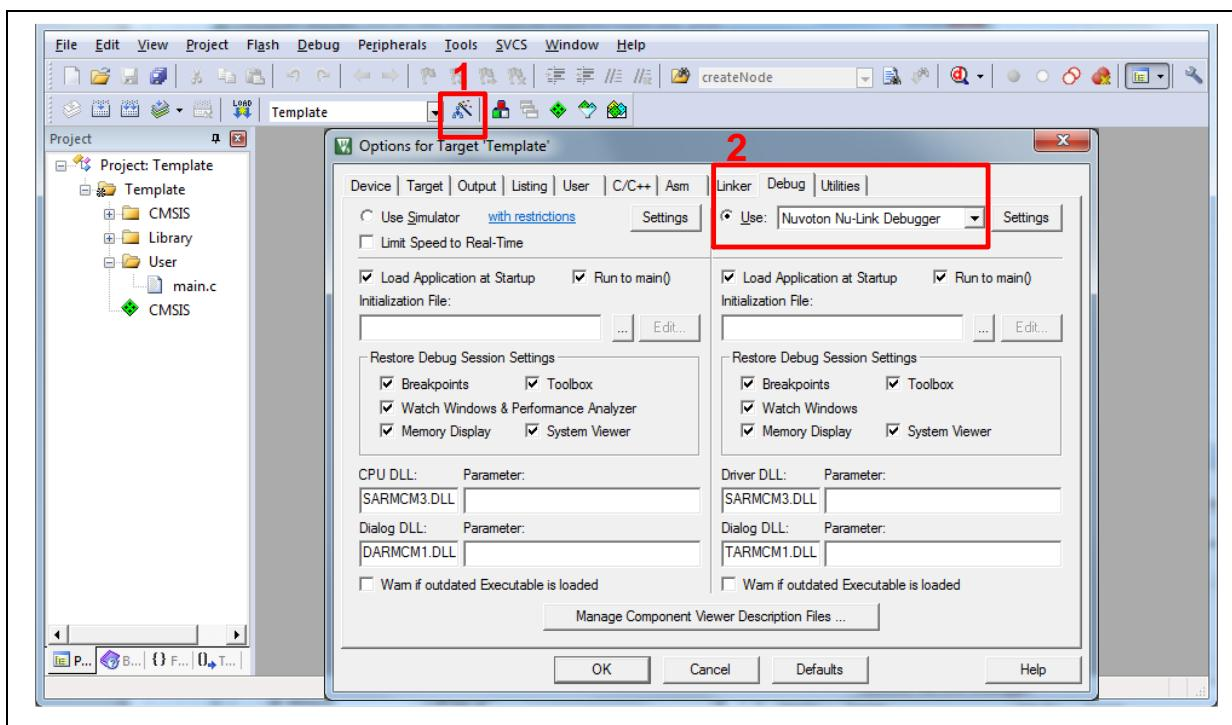
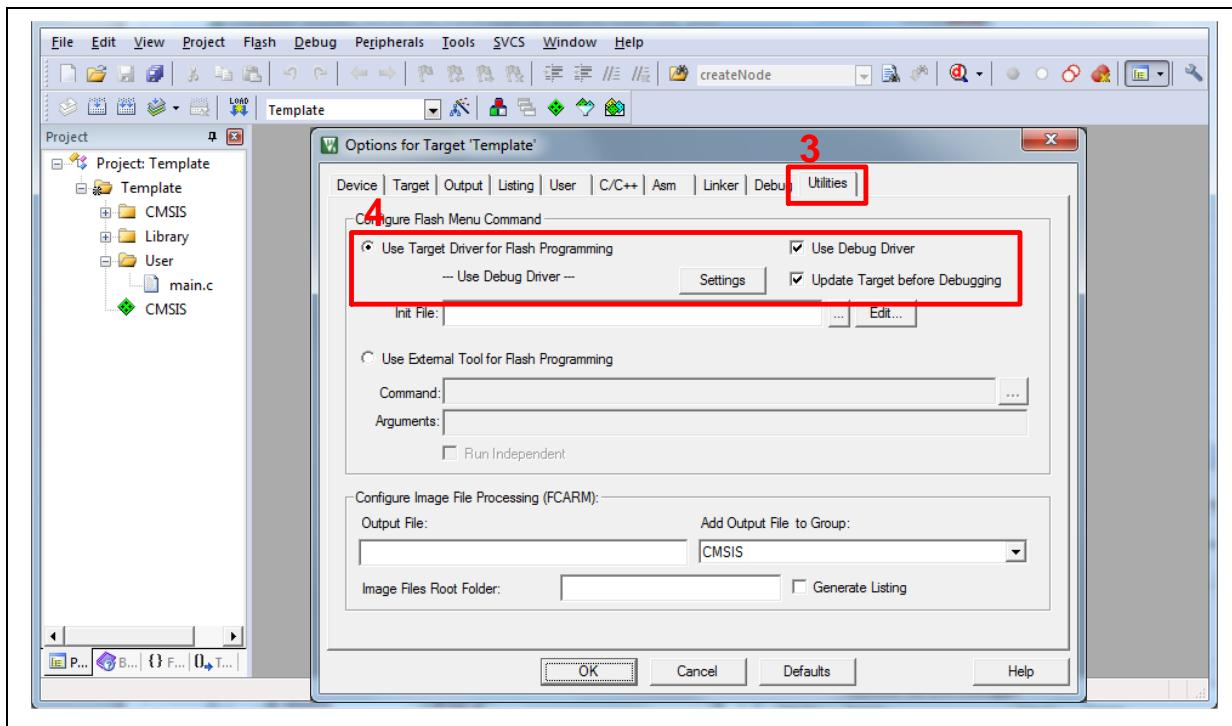
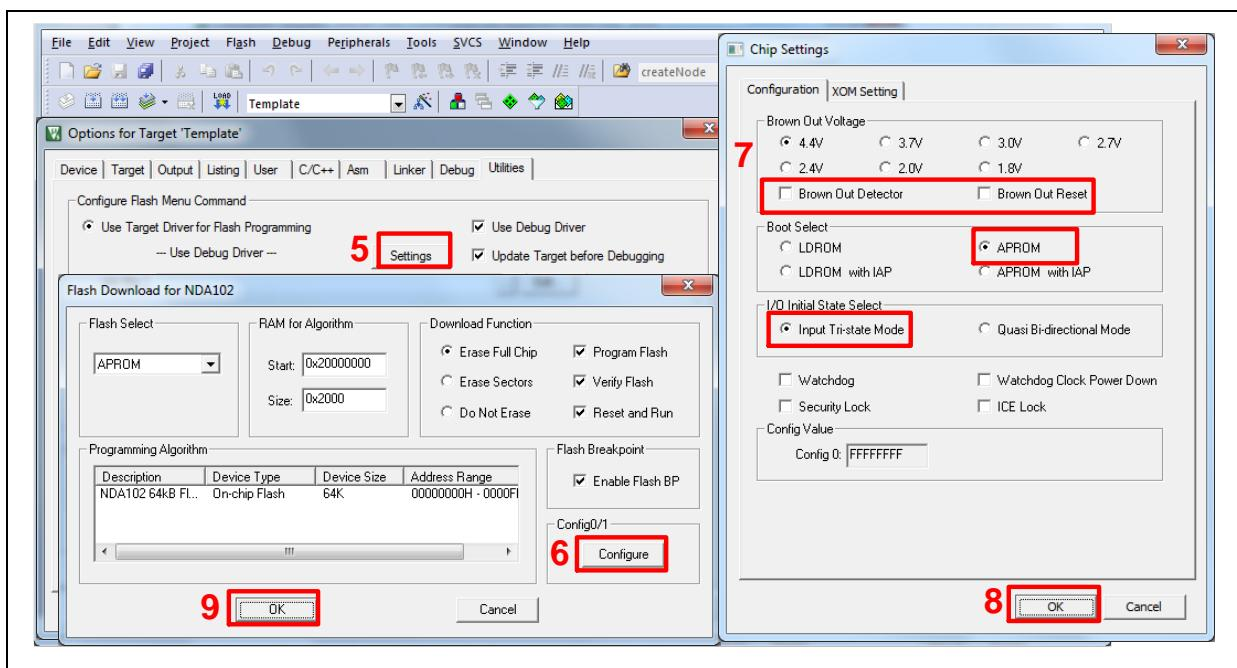

Figure 5-8 Debugger Setting in Options Window
Figure 5-9 Programming Setting in Options Window
Figure 5-10 Default “Config” Setting in Options Window
3. Make sure the debugger is “Nuvoton Nu-Link Debugger” as shown in Figure 5-8 and Figure 5-9. And check the “Config” setting is the same as Figure 5-10.
Note: If the dropdown menu in Figure 5-8 does not contain “Nuvoton Nu-Link Debugger” item, please rework section 5.2.